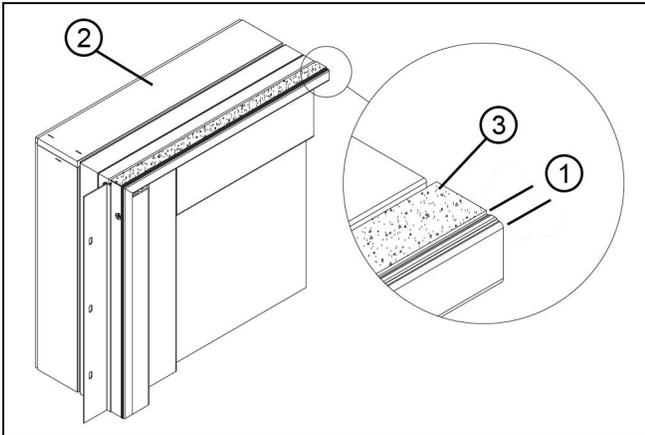

Figure 22
1. If applicable, remove nailing fin/drip cap from head jamb of door and sill of transom. Apply one sided mull sealant foam tape to the entire length of door head jamb ensuring it is located 1/4" (6) from the exterior edge of the Ultrex frame. See Figure 22.